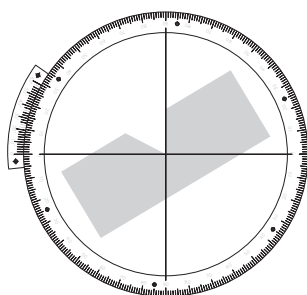

Fig. 2
1. Make sure that the screen degree scale is set to 0 (zero). If it is not, then rotate the screen with the help of a knob (9).
2. Adjust the job such that the bottom of "V" is exactly at the center of the cross-hair. Also, make sure that one edge of "V" is aligned to either vertical or horizontal line on the screen. For this example we align the right edge of "V" notch to the vertical line on the screen and at the same time we align the bottom of "V" to the center of cross-hair (Fig. 2).